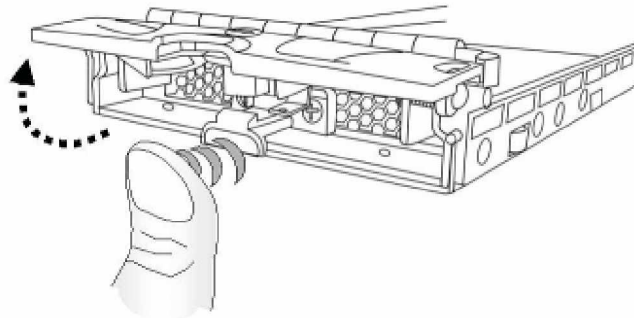

Figure 5-31: Opening the Front Flap
**Step 3. Open the front flap** by pushing the button at the front of the drive tray. (See *Figure 5-31*) The drive tray front flap will automatically be lifted and the drive tray will be dislodged from the chassis.